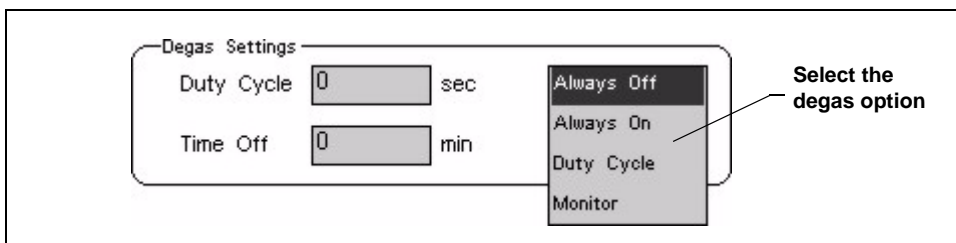

Figure B-15. Pump Page: Selecting Degas Options
2. Under **Degas Settings**, touch the options drop-down list. A list of available options appears (see Figure B-15).